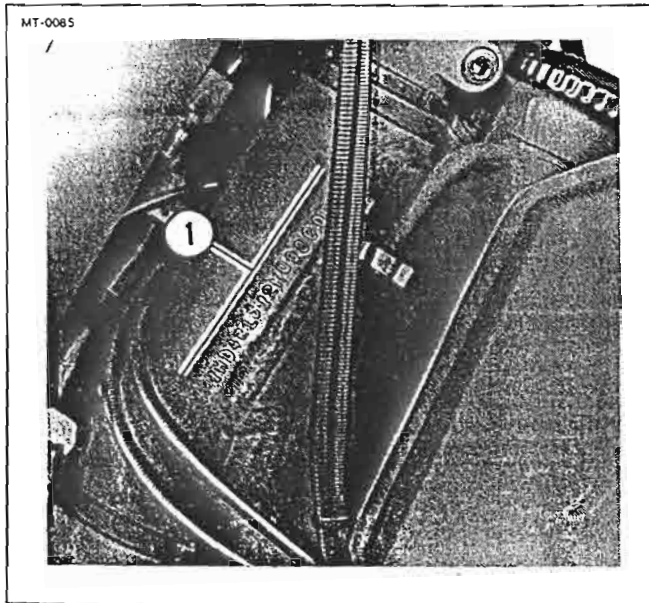

Figure 1-3. Vehicle Identification Number (VIN)
See Figure 1-3. The full 17-digit serial number (1), or Vehicle Identification Number (VIN), is stamped on the left side of the steering head.